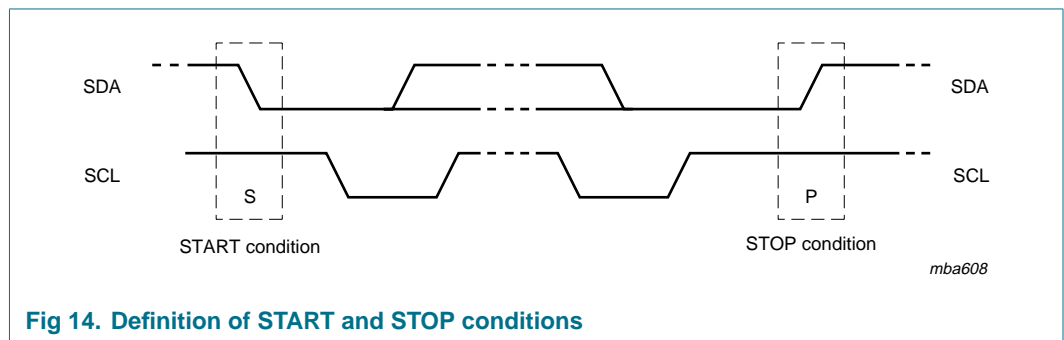

Fig 14. Definition of START and STOP conditions
Both data and clock lines remain HIGH when the bus is not busy. A HIGH-to-LOW transition of the data line while the clock is HIGH is defined as the START condition (S). A LOW-to-HIGH transition of the data line while the clock is HIGH is defined as the STOP condition (P) (see Figure 14.)